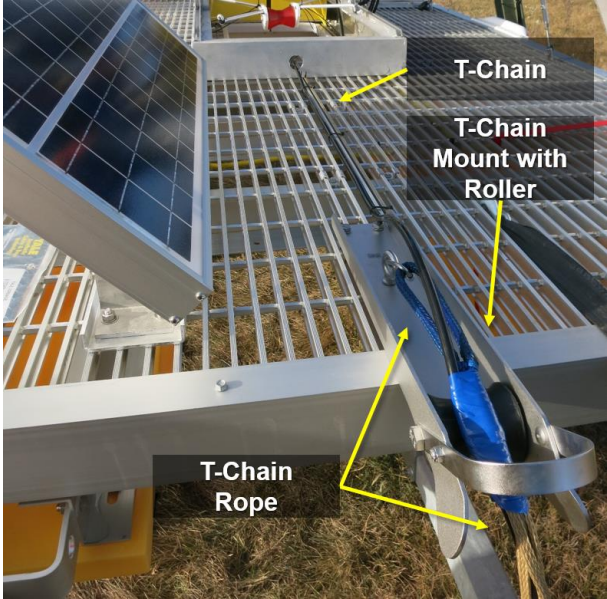

Figure 19. T-Chain and T-Chain Mount on Floating Deck
11. Inspect the Temperature Chain (T-Chain) attachment to the floating deck (see Figure 19) on the bow. The T-Chain is a single-cable string consisting of sensors that measure water temperature at specific depths in Celsius. The T-Chain varies in length per AIS Lake Buoy site.